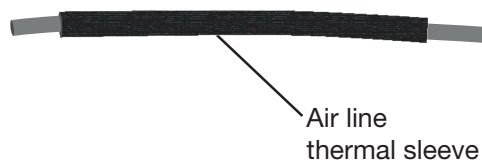

fig. 30
1. Slide the air line thermal sleeve over the air line and place it where the air line is closest to the exhaust (fig. 30).